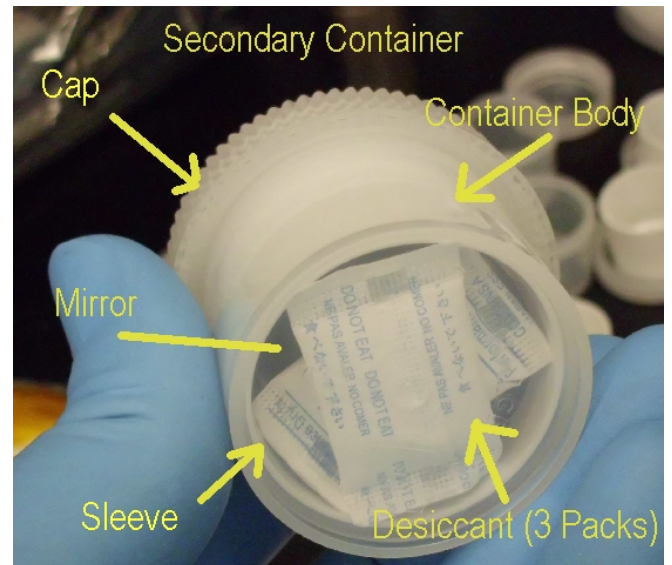

Figure 3.
- Screw the lid on the cylindrical container, and verify that the screw on cap is closed tight. **figure 3**.